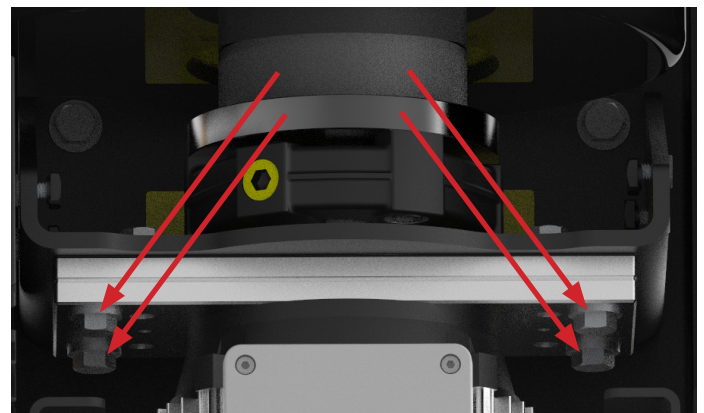

Figure 53
3. Loosen the hex head screws that hold motor adapter plate 1 to motor adapter plate 2 (see Figure 53). Support the body of the motor so it can be pulled straight back. The drive coupling hub will come free with the motor.